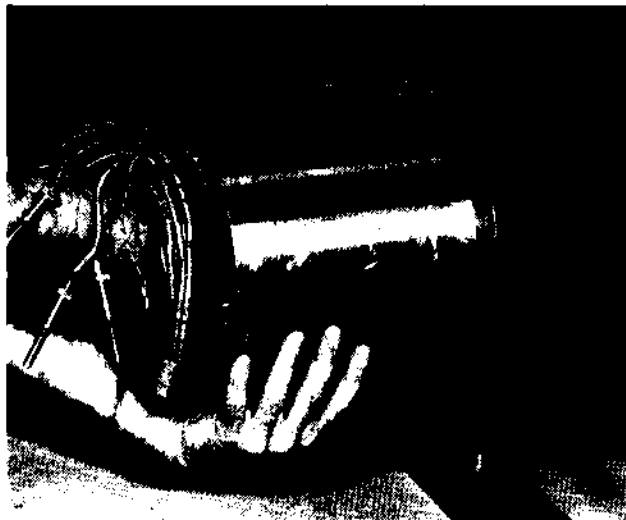

Figure 46
9. Grasp the stator windings with both hands and pull the stator out of the housing (Figure 46). It may be necessary to place boards or some other support device below the stator when removing since the weight is great enough to make this operation difficult. A sharp rap on the side of the motor barrel with a plastic hammer may be necessary to start the stator moving.